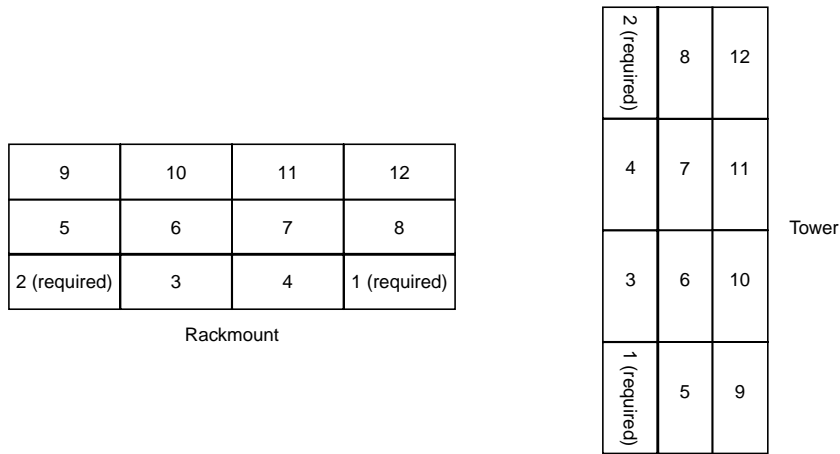

Figure 6-1 Drive Installation Order
- Install drives in the order shown in Figure 6-1. Generally, after the two required bays are occupied, drive bays are filled starting at the bottom of the storage system.